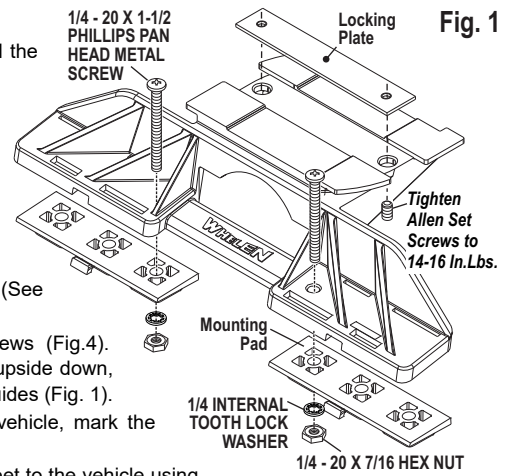

Fig. 1
1. Locate the mounting foot and locking plate included with your lightbar. If not already present, install the locking plate onto the mounting foot using the supplied allen set screws (Fig. 1).
6. Turn the lightbar upside down and firmly tighten all of the mounting foot allen head set screws (Fig.4). **IMPORTANT: The allen head set screws must be tightened to 14-16 In. Lbs.** With the lightbar upside down, drill 2 holes into the mounting foot (for the mounting bolts) using the holes in the mounting pads as guides (Fig. 1).